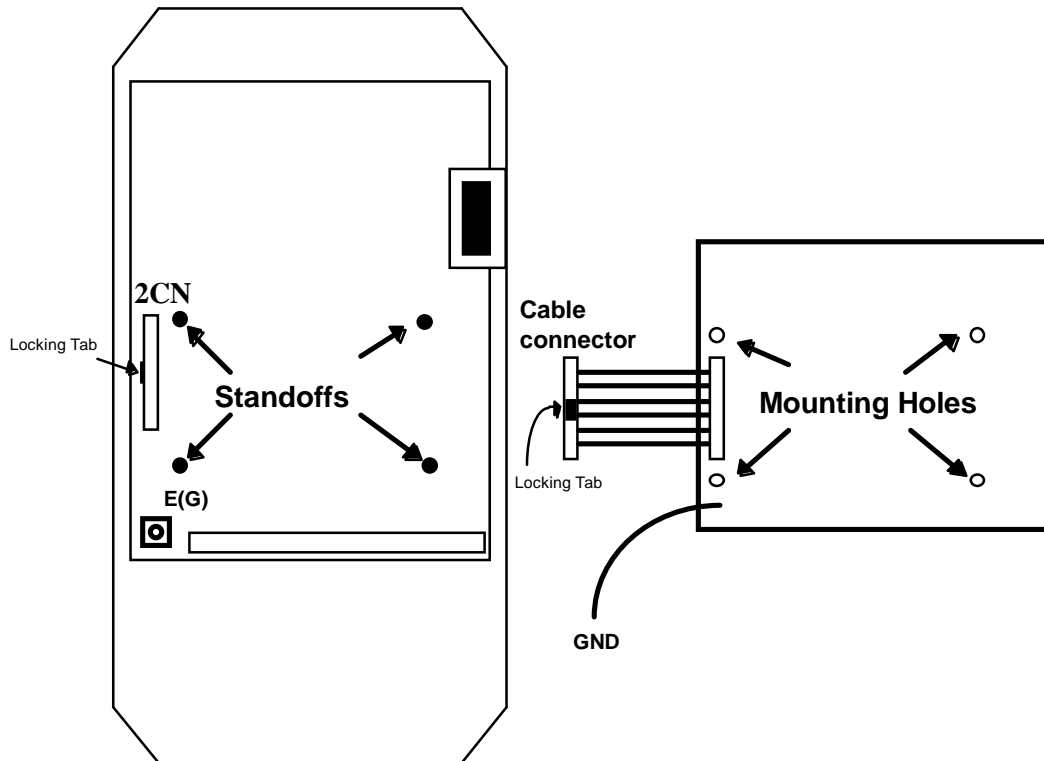

Figure 4. Option Card Positioning
Step 3. Position the option card so that the 12-pin interface cable is to the left, as illustrated in **Figure 4**. Carefully press the attached cable connector into connector 2CN until it is firmly seated. Please note the orientation of the locking tab relative to the connector mounted on the control board.